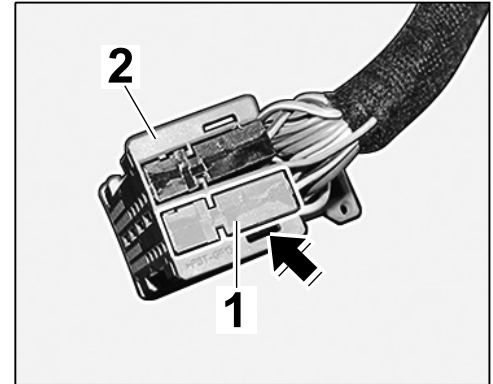

Figure 16
- 2.4.2 Open the locking mechanism ⇒ *Figure 16 -arrow-* and slide the grey plug socket ⇒ *Figure 16-1-* out of the black plug carrier ⇒ *Figure 16-2-*.